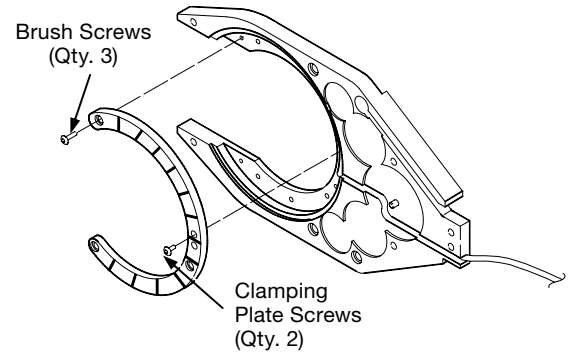

Figure 17 Removing the Brush
2. Remove the brush from the brush side of the housing assembly. See Figure 17.